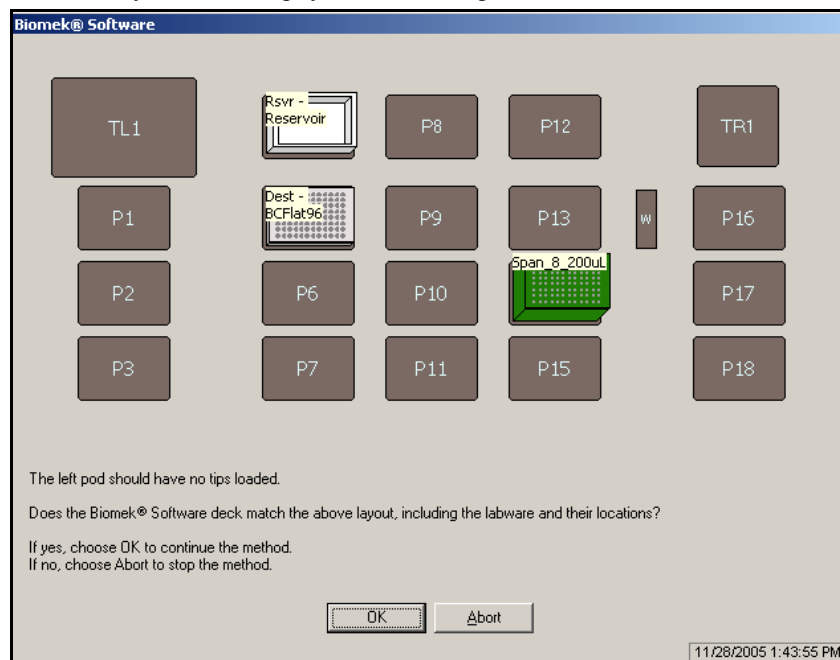

Figure 5-14. Deck confirmation prompt
When you select **Run**, the method will be validated internally to check for errors. After this validation is complete, a deck confirmation prompt will appear over the main editor (Figure 5-14). This prompt displays the deck setup as interpreted by the software.
1. Click on the **green arrow** button on the toolbar or from the **Execution** menu, choose **Run**. A deck confirmation appears (Figure 5-14).